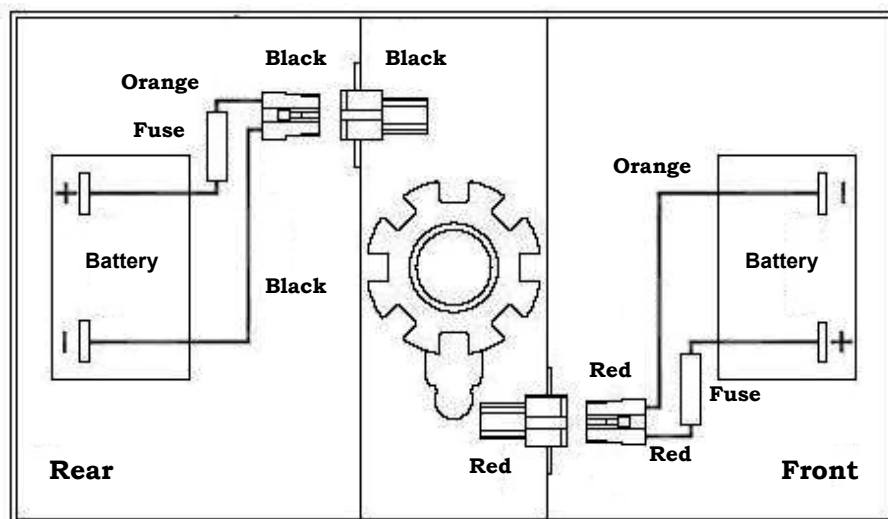

Figure 7
2. Make sure both battery harnesses are plugged into the power chair and locked. See figure 7 on page 15, and figure 10 on page 16.
There is a “Battery Connection Diagram” located on the inside of the rear battery cover. See figure 7.
3. Place the batteries into the battery tray. Be certain the color coded connectors match. Refer to the "Battery Connection Diagram" shown in figure 7 on page 15.